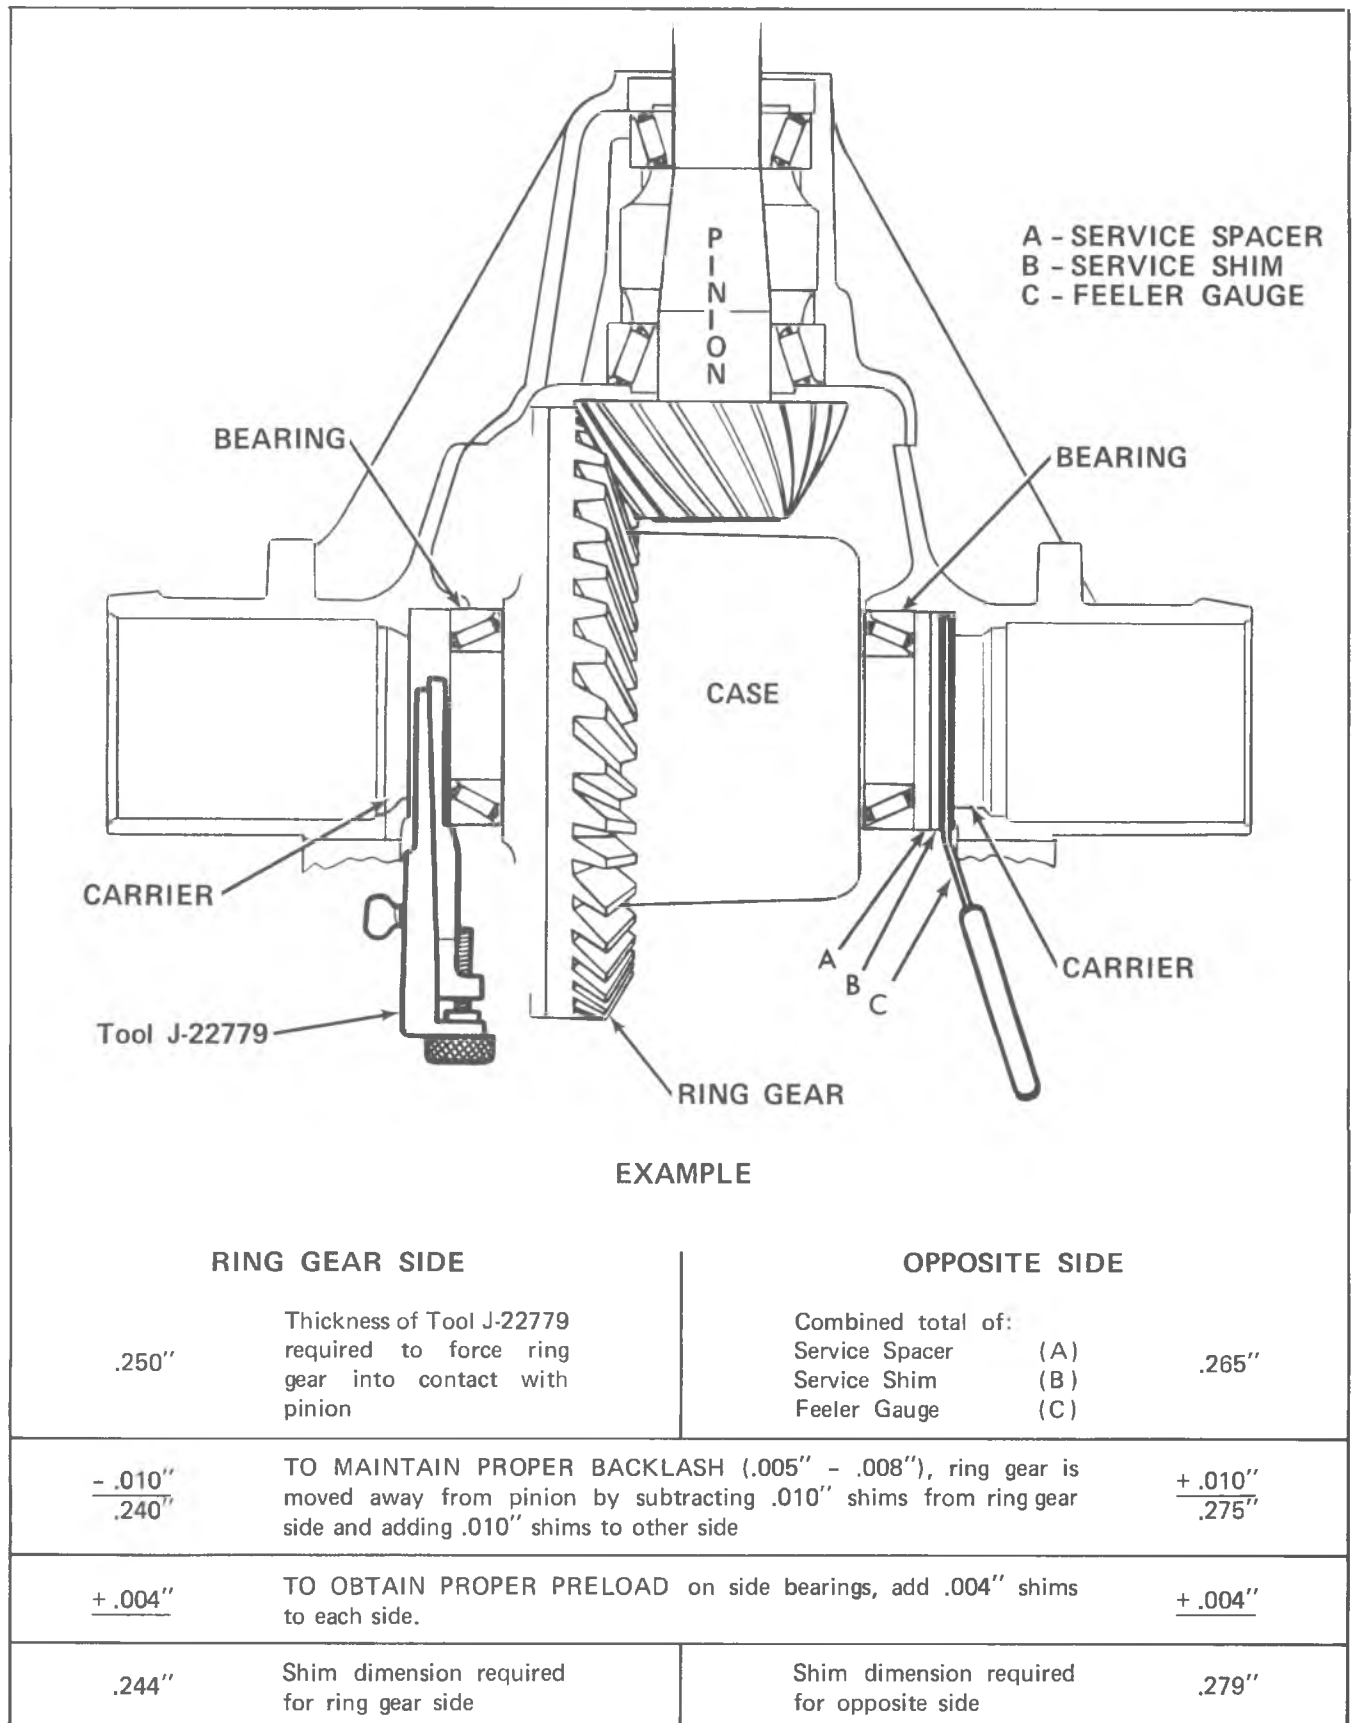

Fig. 7A--Determining Side Bearing Shim Requirements
8. Now measure the above dimensions as shown in Fig. 7A.
9. Use the sample procedure in Figure 7A to determine the proper thickness for each shim pack.